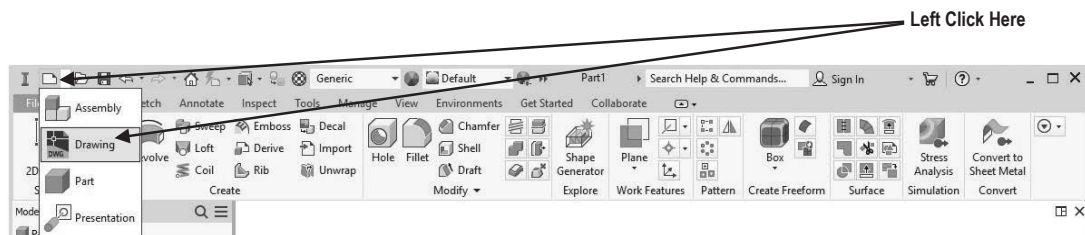

Figure 9
12. After the part file has been saved, move the cursor to the upper left portion of the screen and left click on the drop-down arrow to the right of the “New” icon. A drop-down menu will appear. Left click on **Drawing** as shown in Figure 9. Once the Drawing Views Panel appears, skip to step 14. If the Drawing Views Panel does not appear, move to step 13.